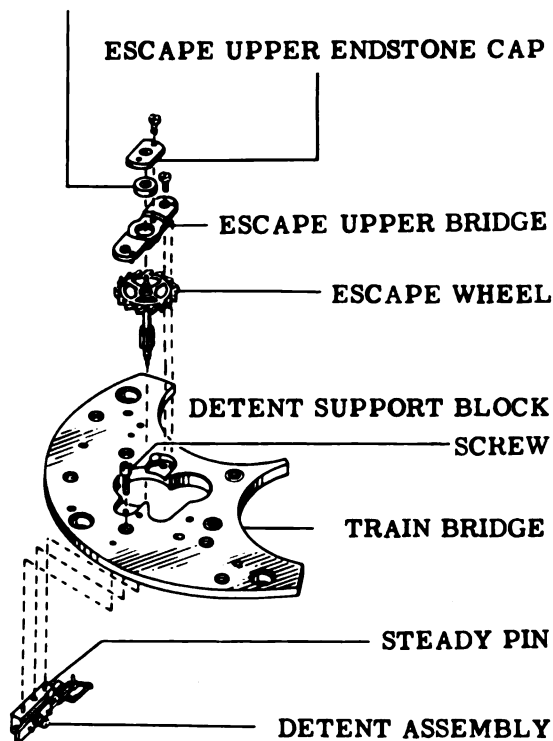

Figure 22
22. Turn movement over (removing legs on work ring). Remove two screws of escape upper bridge and place screws in tray. Lift out escape upper bridge. See the explosion in Fig. 22.
23. Remove escape wheel and place with the balance unit. See Fig. 22.
24. Remove two endstone cap screws from escape upper bridge. Remove endstone cap from bridge. See Fig. 22. If not already done, mark the numeral "1" in the milled recess of the escape upper endstone cap. Place bridge, endstone cap and cap screws in the cleaning tray with bridge screws.
26. Carefully remove wedge, and remove detent assembly (see Fig. 22) by straddling detent assembly with the tweezers. If detent is tight, remove by pushing nickel wire against steady pins. Place detent assembly with escape wheel and balance.